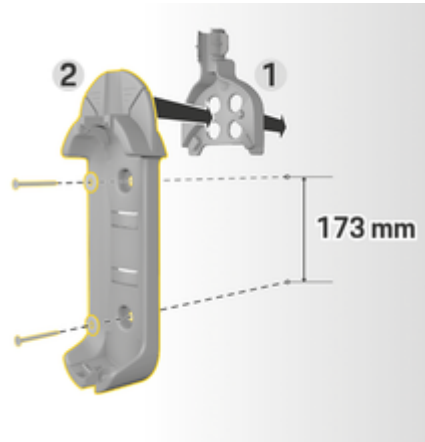

Fig. 6: Drilling dimensions
3. Press the standard wall mount 2 (Fig. 6) into the cable guide 1 (Fig. 6) from the front.